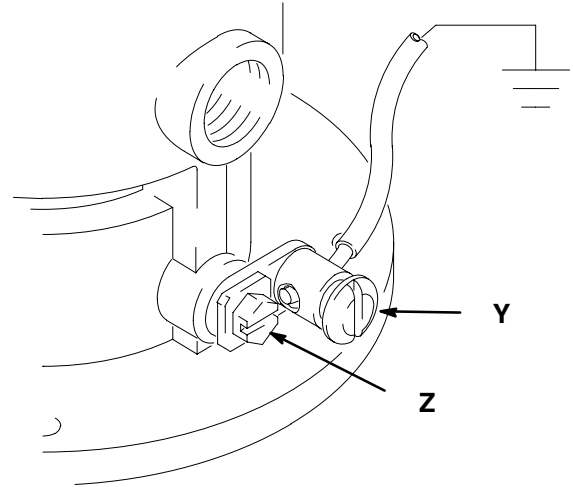

Fig. 2
1. *Pump:* Use a ground wire and clamp as shown in Fig. 2.
To ground the pump, remove the ground screw (Z) and insert through the eye of the ring terminal at end of the ground wire (Y). Fasten the ground screw back onto the pump and tighten securely. Connect the other end of the ground wire to a true earth ground. See Fig. 2. *To order a ground wire and clamp, order Part No. 222011.*